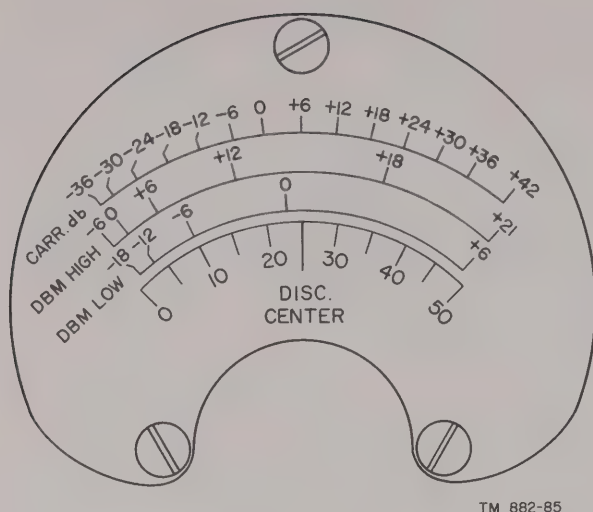

Figure 71. Meter scale.
(figs. 71 and 72)
a. General (fig. 71). Meter M301 on the front panel is a microammeter with a resistance of approximately 2000 ohms and requiring 50 micromperes for full-scale deflection. It is accurate to within ± 2 percent. The meter face is equipped with four scales: CARR. db, DBM HIGH, DBM LOW, and 0 to 50 microamperes. The top scale (CARR. db) is calibrated in db (decibels) and the two lower scales are calibrated in units of DBM, which is an audio power level referenced to one mw (milliwatt) of audio power developed across a 600-ohm load. The 25-microampere position on the lowest scale is plainly indicated for use with the discriminator meter center control.